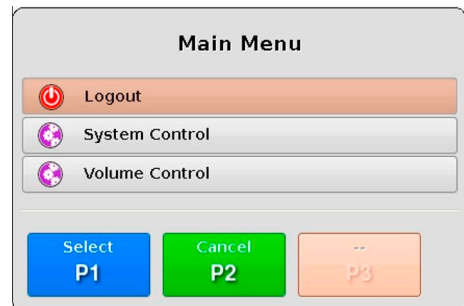

Fig. 23: Main menu - Logout
- ▷ Press the  key to open the main menu (see Fig. 23). Depending on the user login the menu items differ, some can be invisible.